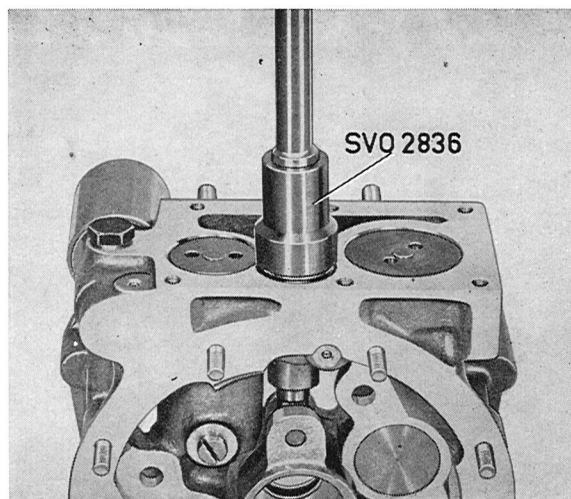

Fig. 4-52. Plug removal
2. Remove the plug under the relief valve with tool 2836, see Fig. 4-52.